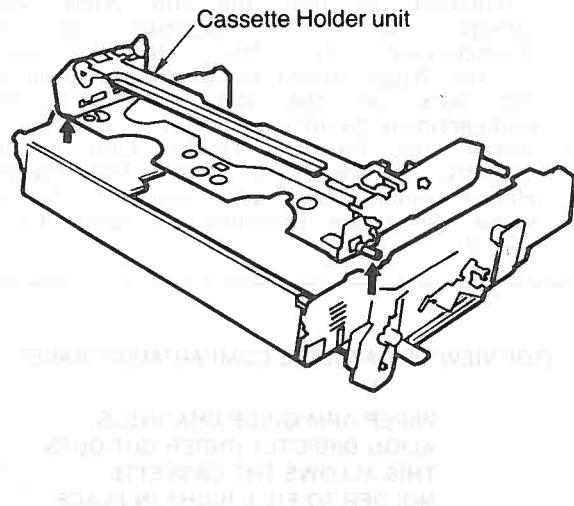

Figure M62 Removal of cassette holder unit
4. Take the cassette Holder unit out as shown in Figure M62.